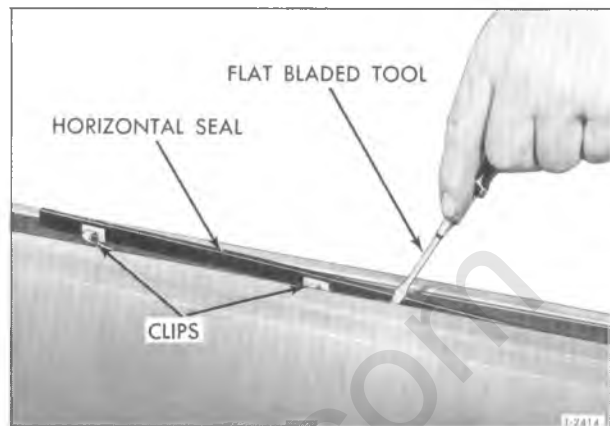

Figure 27—Removing Glass Horizontal Seals
4. If desired, the horizontal seal strips can be replaced using a flat-bladed tool to pry strips from door as shown in figure 27.
seals from door panel in manner shown in figure 27. Pry a small amount at each fastener to prevent seal channel distortion.